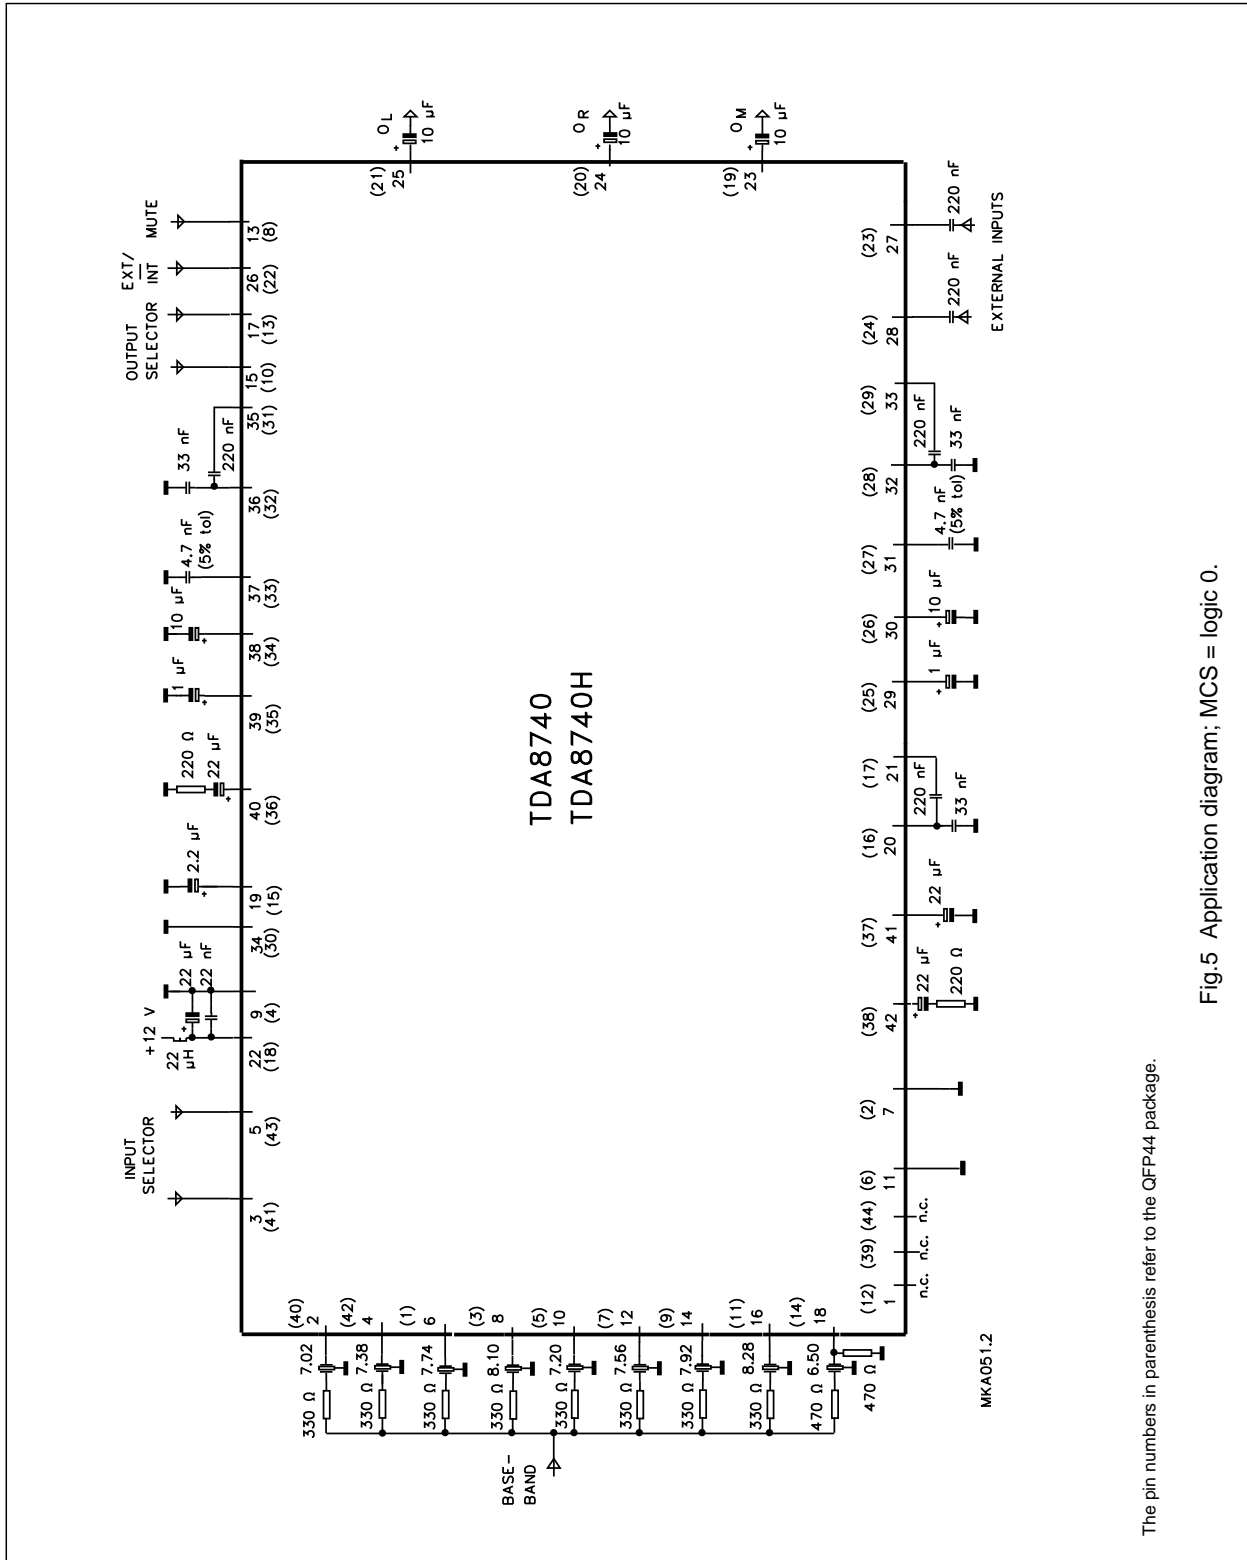

Fig.5 Application diagram; MCS = logic 0.
#### MCS pin 7 (2) = logic 0; (see Fig.5)